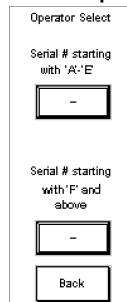
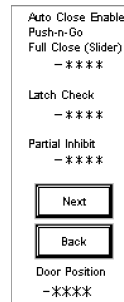

Fig. 6
Fig. 7
4. Selecting Standard will give you the screen shown in Fig. 6. Choose the appropriate serial number series of the operator, to get to the first preset screen (Fig. 7)
- You'll be given a display of the first three user presets (Fig. 7). To edit a preset, simply touch the preset number.
- Press 'Next' (Fig. 7) to display the remaining user presets or 'Back' to return to the previous screen.